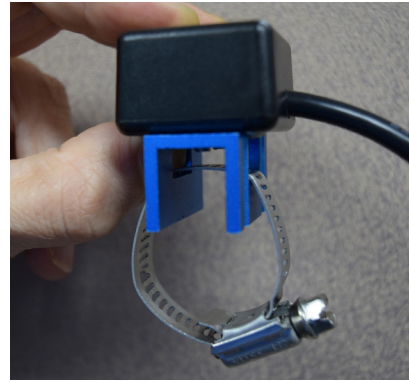
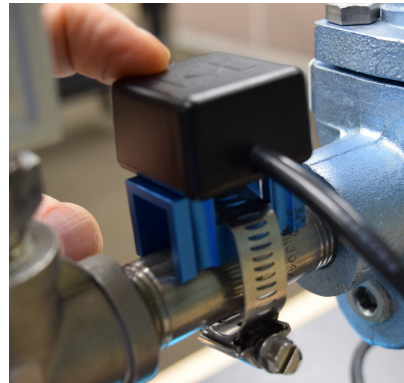

Figure 11
Figure 12
Danfoss Coils - See Alternate Coils Figure 11
3. Feed clamp through slot in activity detector bracket (Figure 11) and around the pipe on the clean pipe section approximately 1” (25 mm) from the outlet of the valve (Figure 12). The activity detector can be installed in any orientation. Tighten the drive screw with a 5/16” hex drive or flat head screwdriver until the clamp is secure and bracket is rigid against pipe and can’t be rotated by hand (Figure 13).